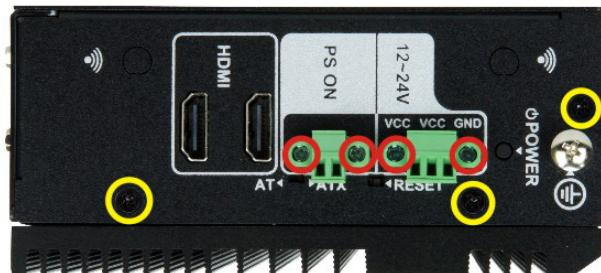

Figure 3-8: Terminal Block Screws and Top Panel Bracket Screws
Step 3: Remove the top panel bracket. Loosen the screws (circled in red) to remove the two terminal block covers. Remove the three retention screws circled in yellow. See **Figure 3-8**.